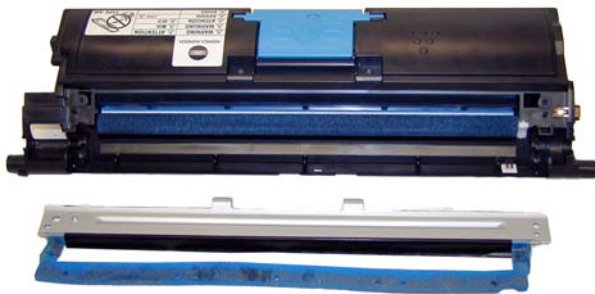

Figure 16
12) Pry up the sealing blade assembly and lift off. The entire foam seal assembly will come off with it. Be careful not to tear the seals. See **Figure 16**